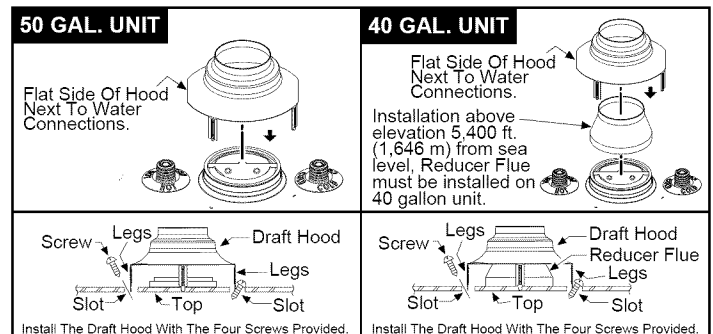

FIGURE 19.
**40 Gal. Water Heater:** Align the reducer flue over top of baffle as shown in Figure 19 (NOTE: reducer flue must be installed on 40 gal. water heater above elevation 5,400 Ft. (1,646 m) from sea level).
**40 & 50 Gal. Water Heaters:** Align the legs of the draft hood with the slots provided. Insert the legs and secure the draft hood to the water heater's top with the four screws provided as shown in Figure 19. Do not alter the draft hood in any way. If you are replacing an existing water heater, be sure to use the draft hood supplied with this water heater.